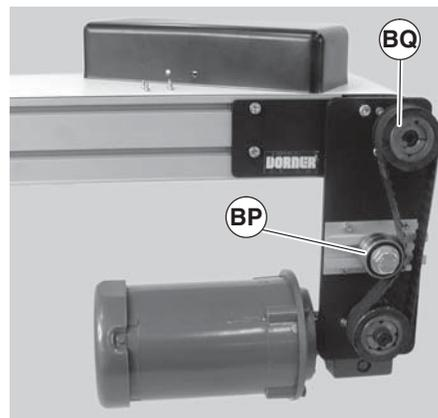
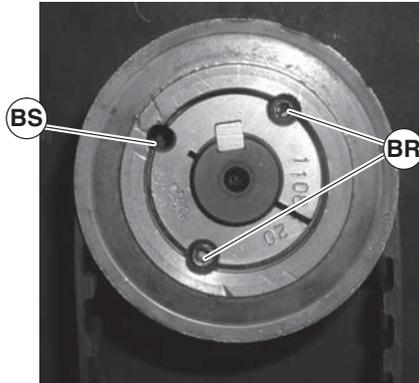

Figure 52
Figure 53
- Loosen tensioner (Figure 52, item BP).
- d. Remove taper-lock screws (Figure 53, item BR) on the driven pulley (Figure 52, item BQ). Insert one (1) of taper lock screws (Figure 53, item BR) in remaining hole (BS). Tighten screw (BR) until pulley is loose. Remove pulley, taper hub assembly and timing belt.